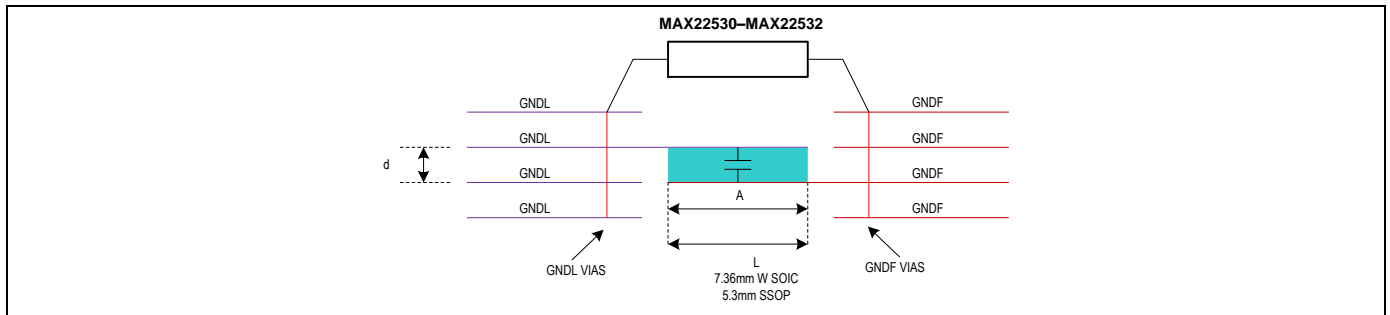
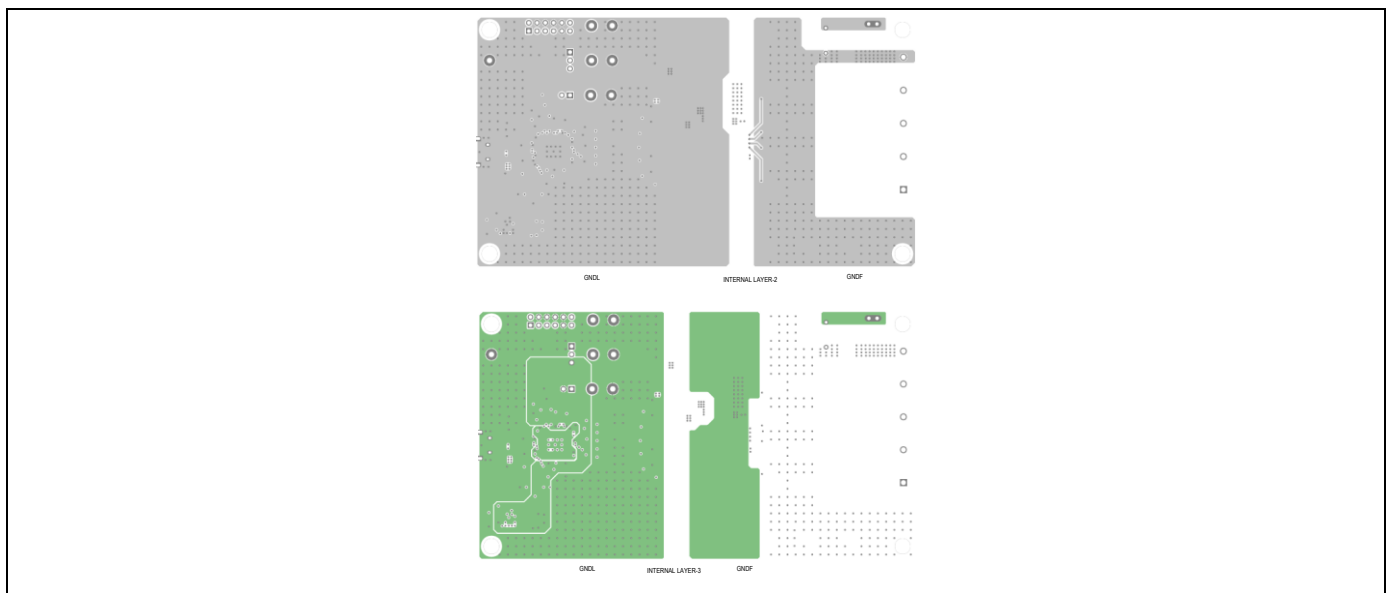

Figure 5. Stitching Capacitance Example on a 4-Layer PCB
Figure 6. Stitching Capacitance on Internal Layers
- Extend the GNDF and GNDL planes on two adjacent layers so they overlap each other; thus, creating a stitching capacitance between GNDL and GNDF. See Figure 5 and Figure 6.